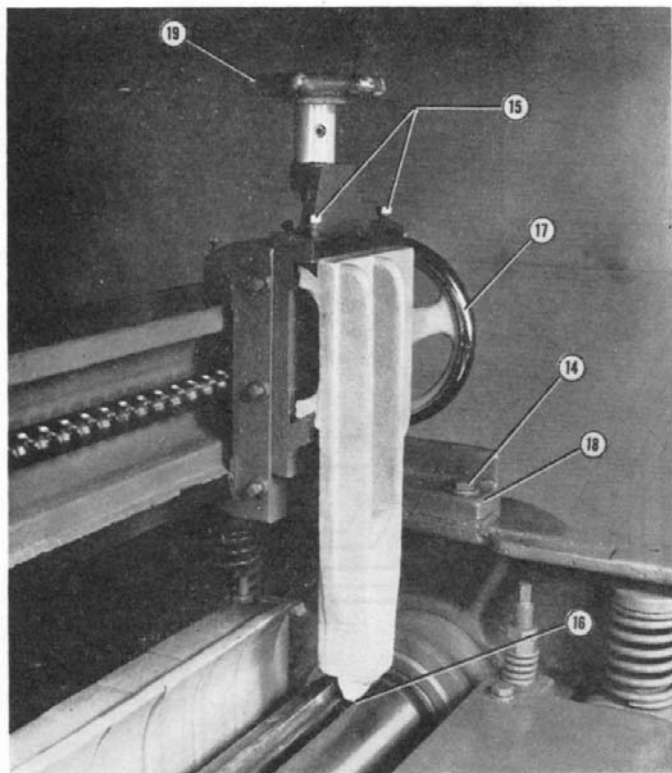

Figure 5
Mount the grinding attachment on jointer bar and secure in place with set screws (15) fig. 5. Lock the cutterhead in place for knife grinding with cutterhead lock (23) fig.